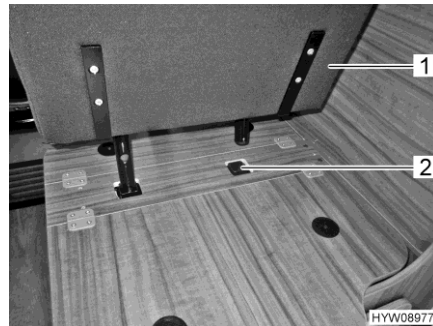

Fig. 29 Place the attachable seat in the holder
- Place the attachable seat (Fig. 29,1) in the holder (Fig. 29,2).